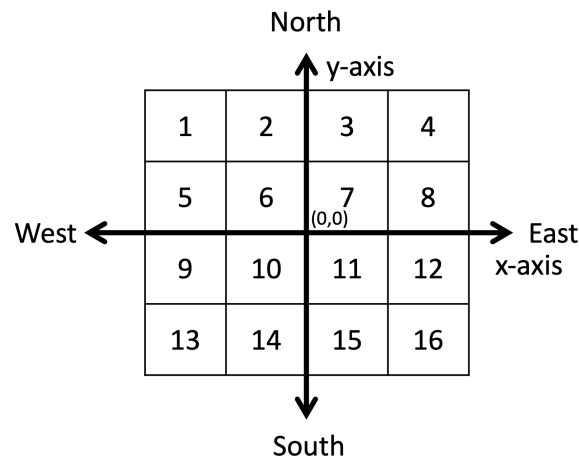

Figure 1. Global reference frame and grid cell numbering scheme.
The global reference frame and grid cell numbering scheme is shown in Figure 1. The positive y-axis points North while the negative y-axis points South. The positive x-axis points East while the negative x-axis points West. Origin (0,0) is in the middle of the arena. The arena consists of 16 grid cells, numbered 1-16, each measuring 10 x 10 inches.
- (a) Visited cells. Use as an example the table below to display already visited cells, where an “X” indicates a visited cell, and “.” indicates a yet-to-be-visited cell. The top left corner corresponds to cell number “1” as described in Figure 1.